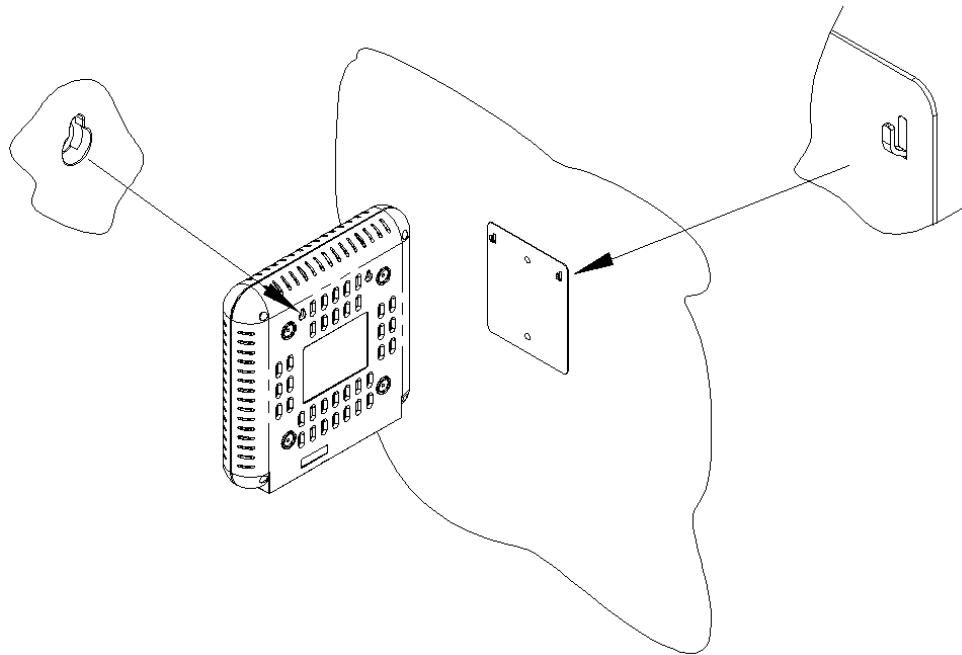

Figure 18: Positioning BSAP-1800 on Hooks
3. Using hooks provided on bracket, position BSAP-1800. Notice the wall mount grooves on the back of the BSAP-1800 (see Figure 18).